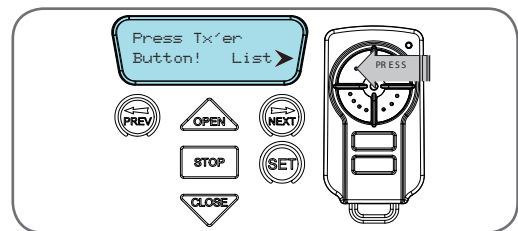

fig 25
2. Press the transmitter button you wish to use to operate the Door Opener (e.g. button 1) (**Fig. 25**).